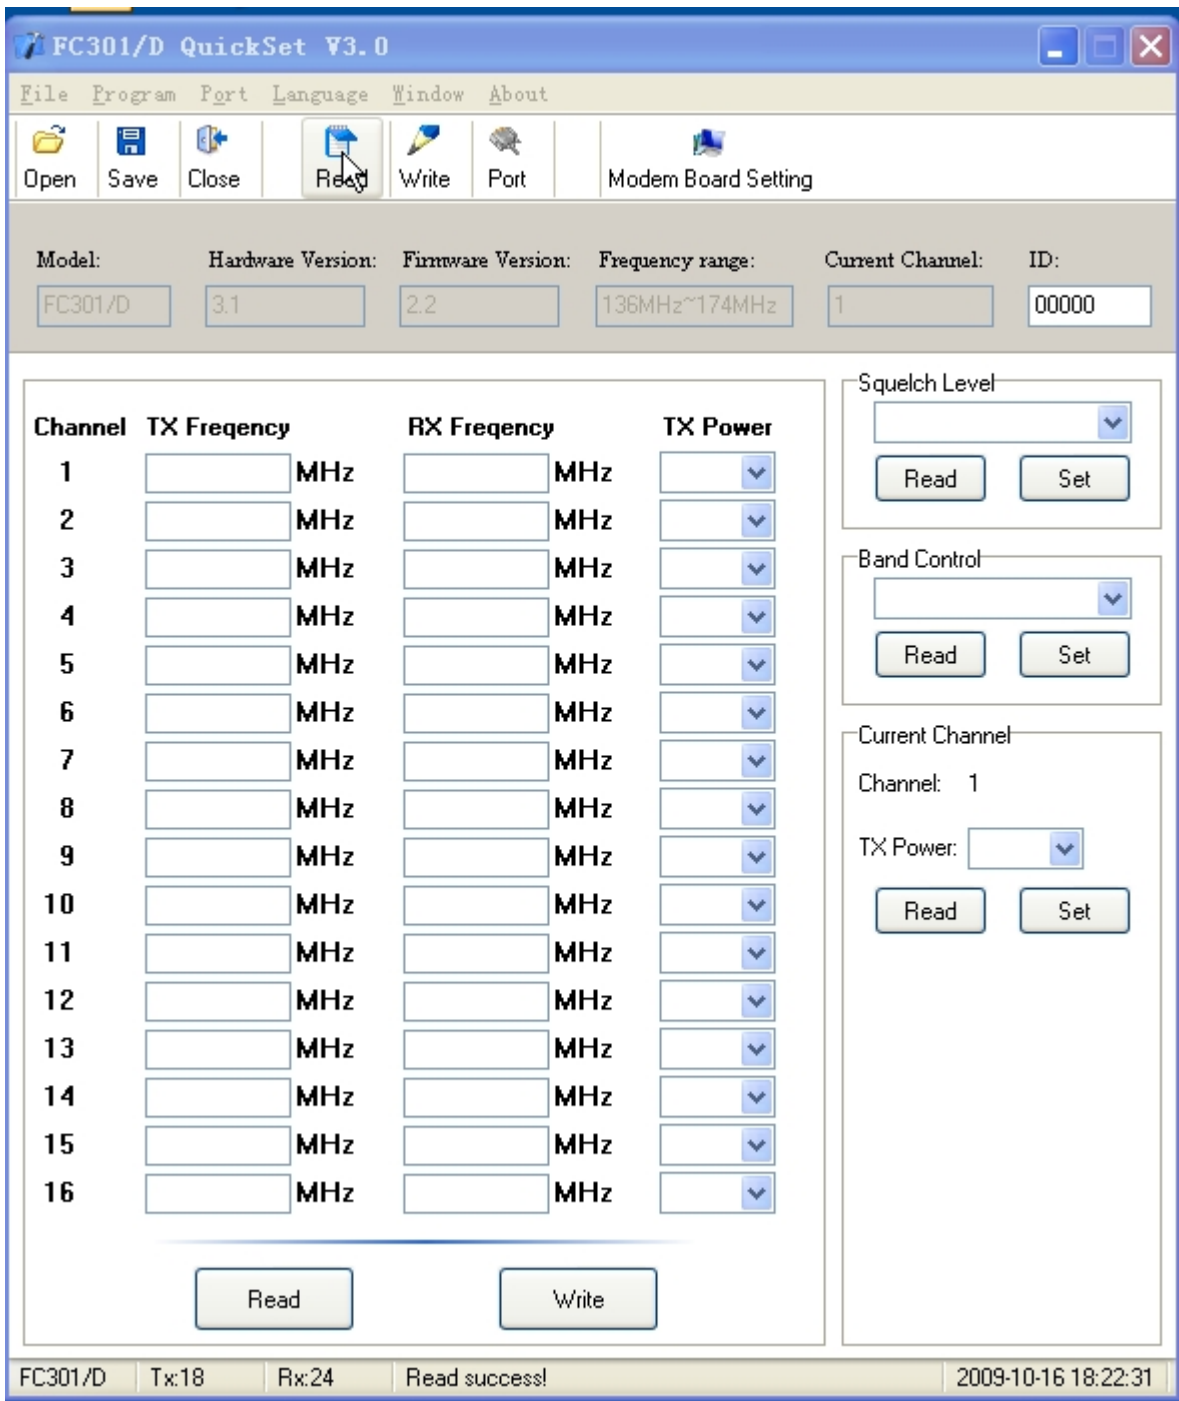

Fig.7.
Step 4: Click Icon ‘Read’, the software will automatically detect and read the parameters of FC-301/D as shown in Fig.7.